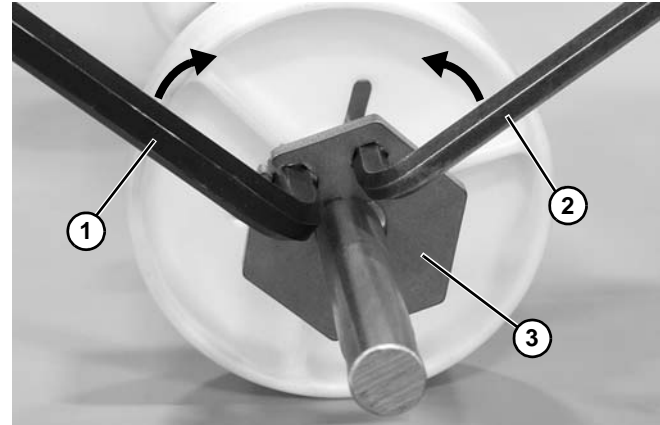

Figure 124
- a. Insert an 8 mm (**Figure 124, item 1**) and 6 mm (**Figure 124, item 2**) hex wrench into the retainer plate.
- b. Move wrenches toward each other to open the retainer plate (**Figure 124, item 3**) and install onto the shaft. Position retainer plate where needed.